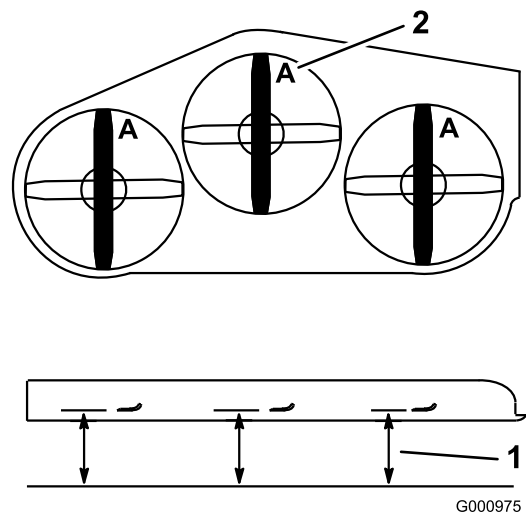

Figure 90
3. With the machine on level surface, position one blade front-to-rear. Measure at **A** and from level surface to the cutting edge of the blade tips (Figure 90).